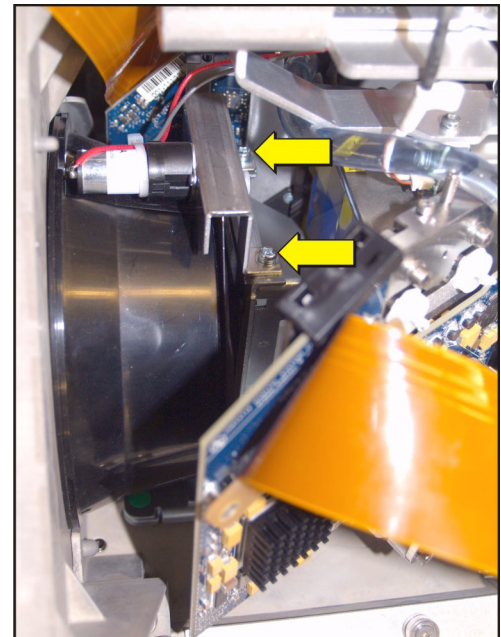

Figure 5-46 Remove Shutter
6. Remove the two screws securing the shutter assembly to the light engine. (**Figure 5-46**)